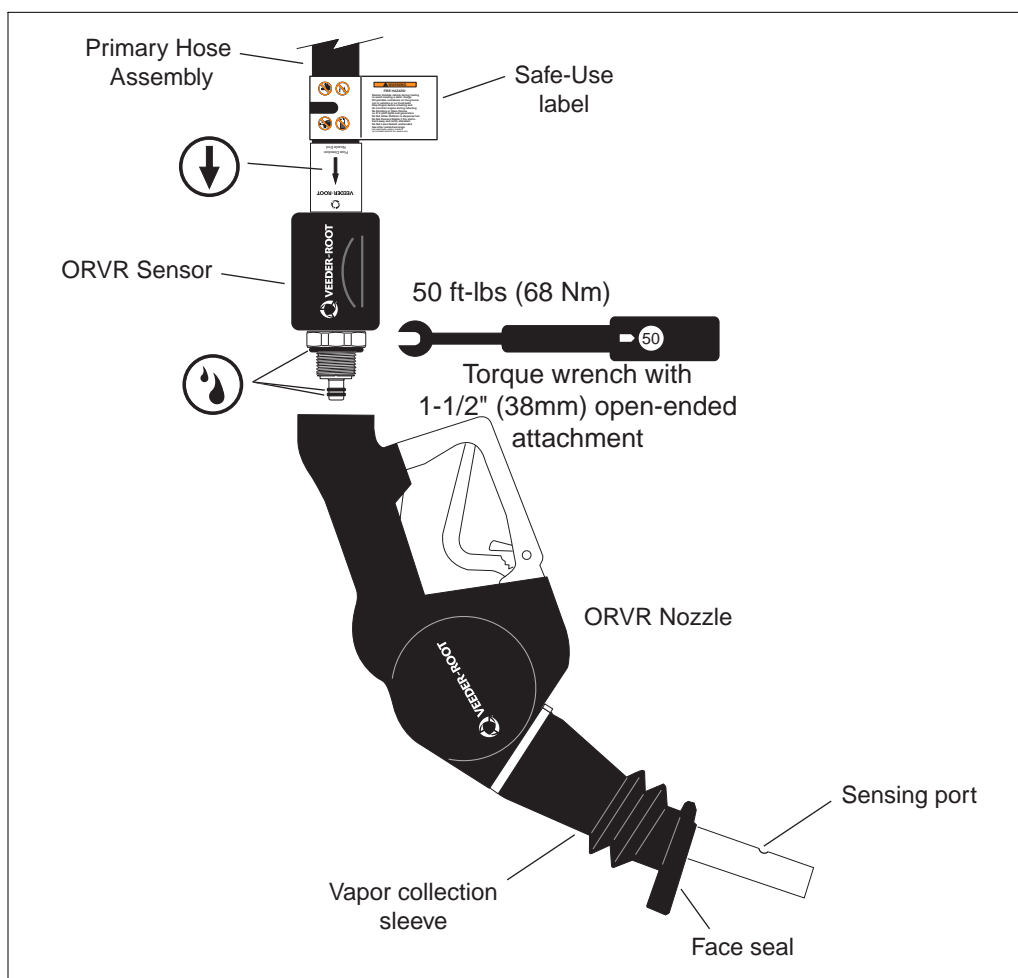

Figure 3. Connecting ORVR Nozzle to Primary Hose Assembly
2. Inspect and lubricate the three o-rings on the Primary Hose fitting using mineral oil or other suitable lubricant (Figure 3). If O-rings are damaged or missing, use a Veeder Root O-ring Kit (P/N 900306-001).
3. Insert the hose fitting into the nozzle body, and tighten the hose to 50 foot-pounds (68Nm) - Refer to UL567. (See Figure 3)
3. Start flow with the nozzle lever's hold-open clip engaged in the low position until the gasoline covers the sensing port of the nozzle (reference Figure 3).